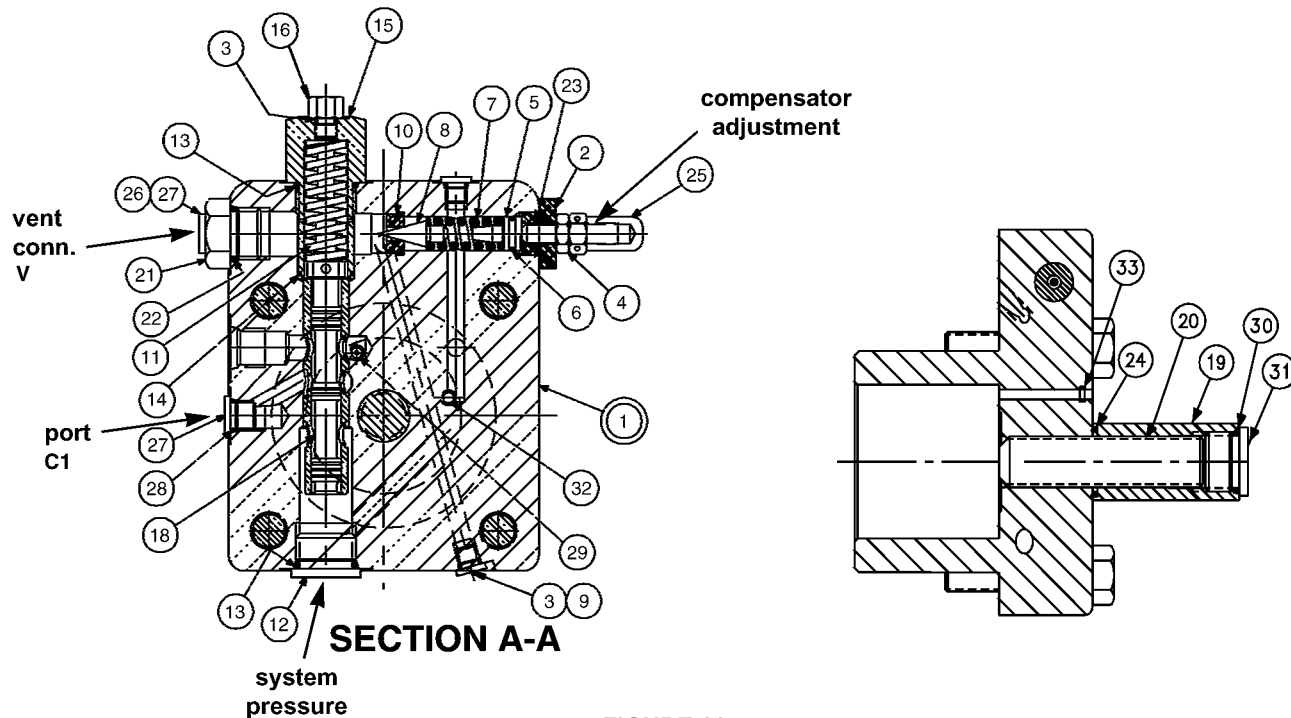

FIGURE 28
**PARTS LIST FOR FIGURE 28**
2. Remove all parts from torque limiter body (16) except pin (30) and arm assembly (28). It is not necessary to remove these parts unless broken or worn. Examine parts for wear or damage.
3. Remove screw (3). Examine head for excessive wear, and body for smooth sealing surface with O-ring.
4. See figure 28. Remove maximum volume stop assembly (items 19, 20, 24, 30, 31).
5. Remove cap assembly (1).
6. Remove plug (15) and attached parts. Remove spring (11) and spool (18).
7. Remove adjusting plug (2) and attached parts. Remove seal piston (5). Note: a 10-24 screw may be attached to assist in pulling the piston. Remove spring (7) and cone (8).
8. Do not remove sleeve in body (1). Sleeve is pressed into cap and finished to size. If sleeve, snout or cap is worn, replace the cap-sleeve assembly (1).
9. Examine seat (10) for wear. Do not remove unless damaged.
1. See figure 28. Install plugs (9) and o-rings (3) orifice (29) and screw (32).
2. Press seat (10) into bore squarely against shoulder in bore.
3. Install spool (18) into bore as shown. Install spring (11) over end of spool. Install plug with stop (16) into plug (15). Install plug (15) into cap.
4. Install O-ring (6) on seal piston (5).
5. Lubricate O-ring and install cone (8), spring (7) and seal piston into bore in cap (1), being careful that cone enters seat (10). Install adjusting plug (2), screw (25), nut (4), and acorn nut (25).
6. Install plugs (12), (21) and (27) and torque.
7. Carefully install O-ring (33) into the cap.
9. Install maximum stop screw (20), cover (19), O-ring (24) and plug (31) with O-ring (30).